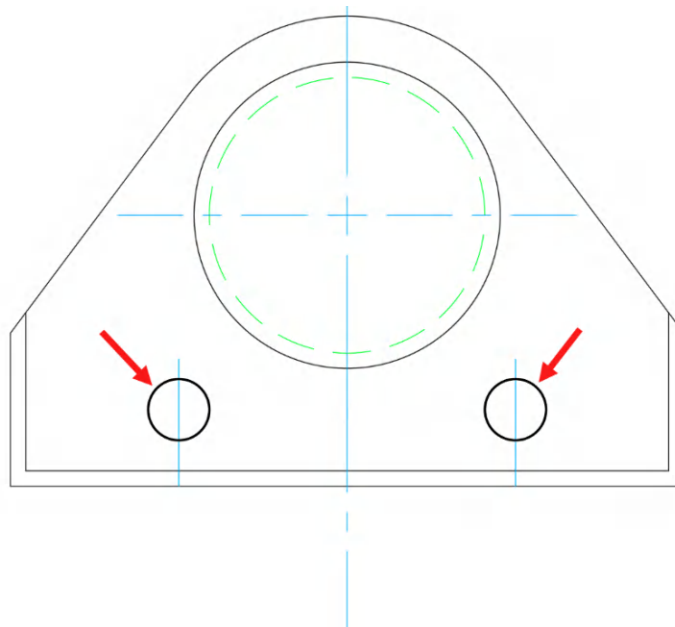

Figure 5.9: The bearing case with the new circles (arrowed and bold for clarity)
For this exercise, you'll be placing two circles inside the bearing case outline to represent two drilled holes. *Figure 5.9* shows how the drawing will look once the two circles have been placed:
6. Using the **Midpoint** Osnap on the right-hand outside edge of the bearing case, repeat this workflow, but drag to the left toward the right-hand, blue, vertical centerline (in the opposite direction to the previous example). This will give you the same result that was shown in *Figure 5.9* but on the other (right) side of the bearing case.